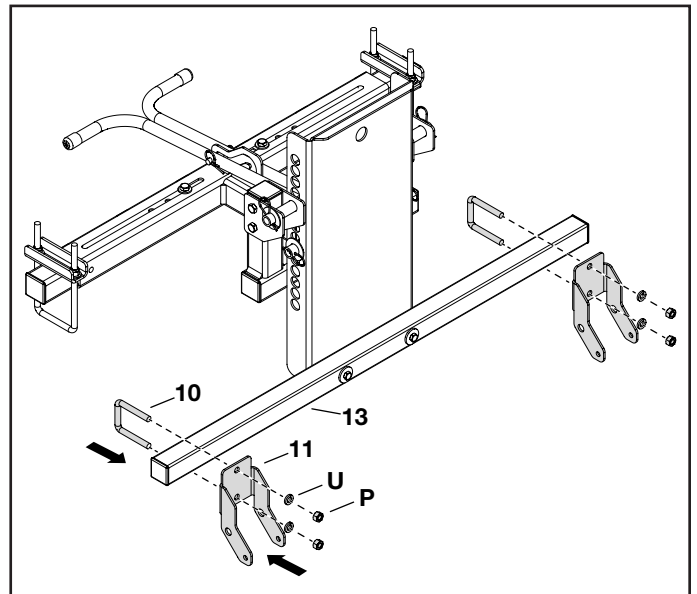

FIGURE 9
STEP 9: (SEE FIGURE 9)
- Attach mounting brackets (11) to the square tube (13) using two U-bolts (10).
- Secure the U-bolts with four washers (U) and four hex nuts (P).